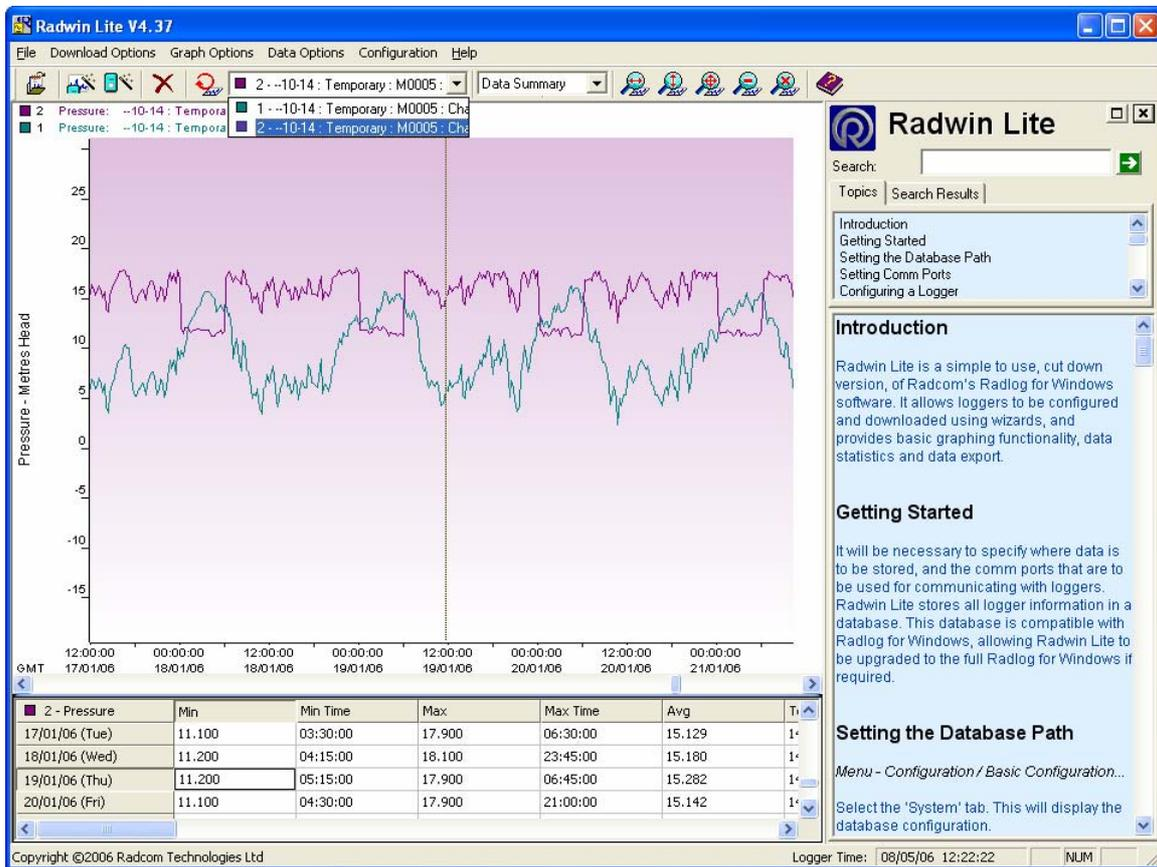

Figure 25 – Channel Selection Toolbar
- right clicking on the mouse and selecting the required channel from the **Graph Select** option (see Figure 25).